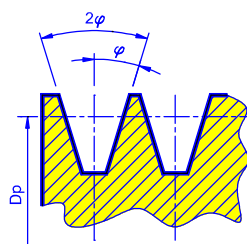

fig. 6
- $\eta$  = friction coefficient between belt and pulley (in case of V-type belts, this coefficient has to be divided by  $\sin(\varphi)$ , where  $\varphi$  is the angle of the semiaperture of the rim of the pulley in rad). Figure 6